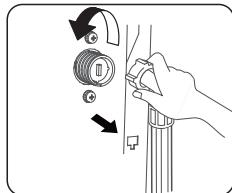

Fig. 19
- Unscrew the water inlet hose (Fig.19).